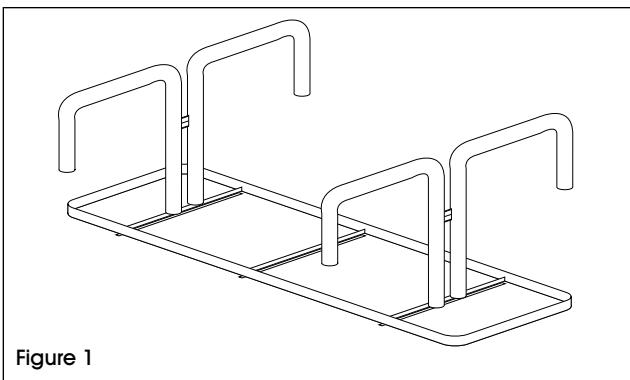

Figure 1
2. Flip the tabletop upside down. Take one leg at a time and loosely attach the end of the leg to the tabletop with the leg braces on an inside mount, using one bolt, two washers and one nut. (See Figure 1)